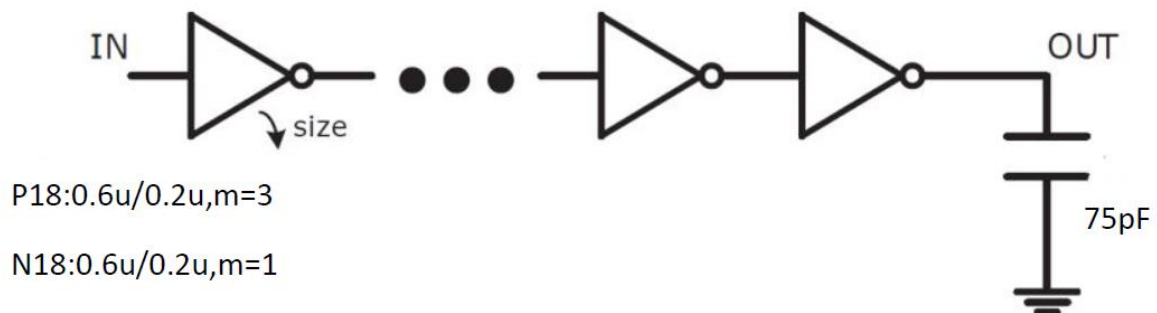

Fig.1
1. Run an inverter buffer (out = $\bar{i}\bar{n}$) with output loading 75pF with VDD = 1.8V, as shown in Fig 1. (The size of the first inverter has been assigned.) (the rising time and falling time of input is 0.01ns & input frequency = 5MHz).